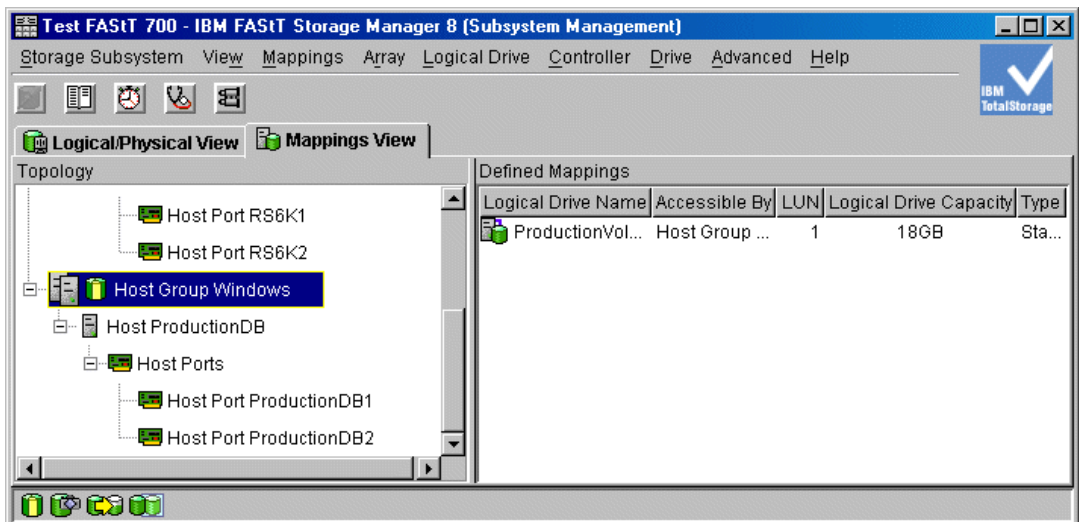

Figure 10-6 State of host mapping before FlashCopy
2. Host group Windows has host ProductionDB defined with two host ports. Mapping exists for host group Windows only for volume ProductionVolume. See Figure 10-6 on page 327.